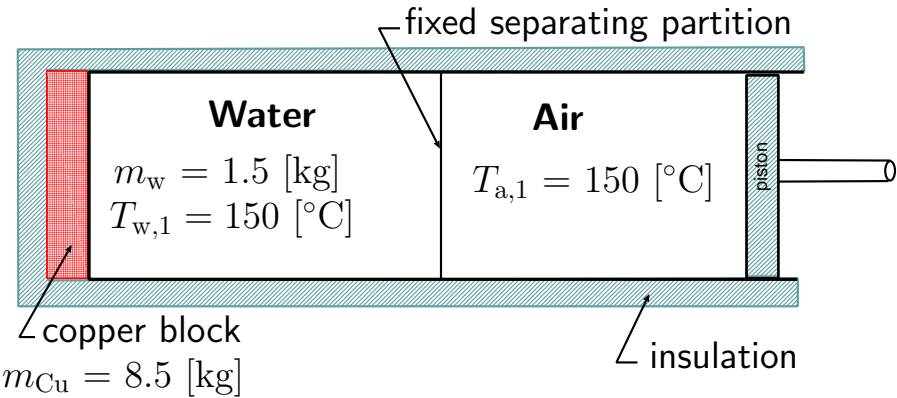

Figure 3: Figure for problem 3
3. A piston-and-cylinder system consists of a volume containing 1.5 [kg] of water, and a separate region containing air with one side bounded by a movable insulating piston as shown in Figure 3. The partition separating the water and the air is fixed in place and it has negligible mass such that it allows heat transfer from one side to the other. Both the water and air are at an initial temperature of  $T_{w,1} = T_{a,1} = 150$  [°C]. A process occurs whereby a block of copper, of mass  $m_{Cu} = 8.5$  [kg], is brought into contact with the cylinder volume containing the water. The copper block is at an initial temperature of  $T_{Cu,1} = 600$  [°C] when it is placed in contact with the cylinder as shown in the figure. The entire piston-cylinder and copper-block system is then surrounded with insulation to prevent heat transfer to the surroundings; the air in the cylinder is compressed polytropically with  $n = 1.15$ . The process occurs until the pressure of the water reaches  $P_{w,2} = 1200$  [kPa] and all three masses (copper, water, and air) reach the same final equilibrium temperature,  $T_{Cu,2} = T_{w,2} = T_{a,2} = 400$  [°C].